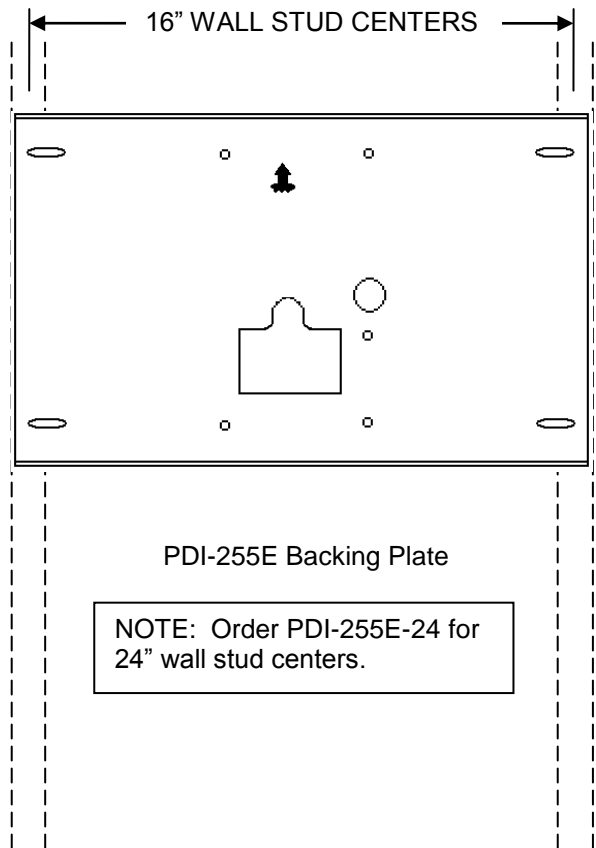

Figure 5.
2. **FABRICATED BACKING PLATE** – A fabricated plate is used that holds welded-on or pressed-in studs. The studs (1/4"-20UNC-2A) would be located on hole centers that coincide with the wall bracket. The plate is then secured to the wall studs. A prefabricated plate PDI-255E or PDI-255E-24 is available from PDI see figure 5. Consult the backing plate instructions packed with each plate for installation details.